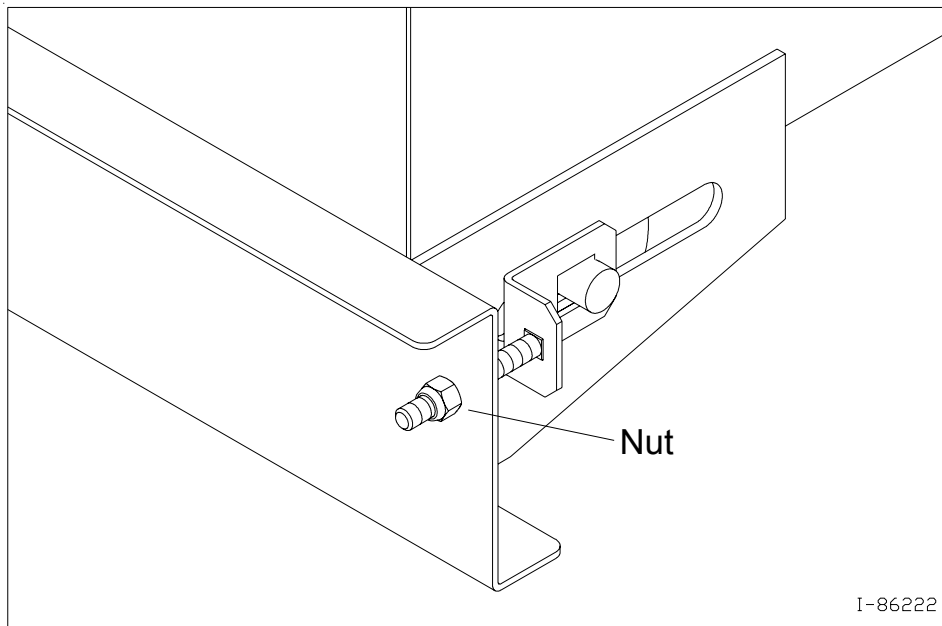

Figure 4A - Adjusting the Floor Apron Chain for Proper Tension
- Periodically check the floor apron chain for proper tension/tightness (refer to Figure 4A).
- b) Use a 9/16" wrench to tighten the adjustment nut on the lower left/right front of the spreader box as shown in Figure 4A. Observe the chain positioning with respect to the floor/apron. ***Make sure that the chains on each side of the apron are equally taut.***